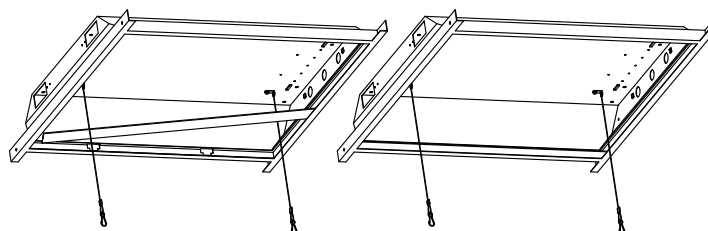

Fig. 2
2. Use 1 of the bracket pieces and place it under the housing and T-grid on the side with safety cables. (Fig. 2)